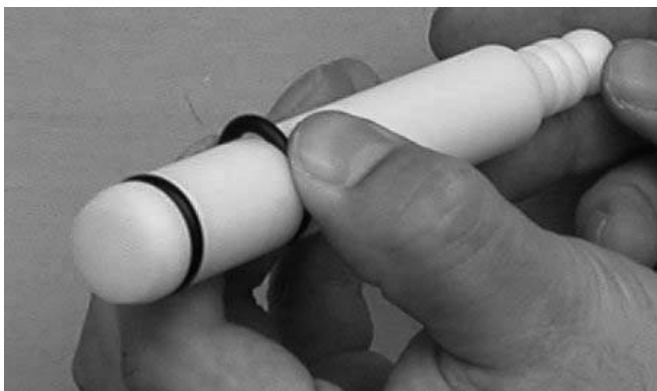

Figure 3-4 Removing O-Ring
5. Remove all o-rings from parts by first wiping off the lubrication using a clean towel. Then squeeze the o-ring upward to form a loop (Fig. 3-4). Roll the o-ring out of the groove.